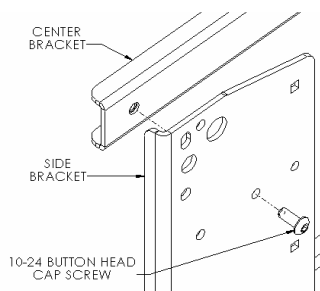
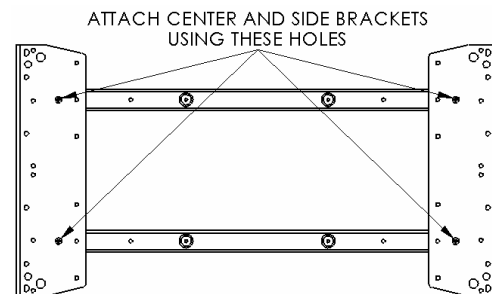

Figure 6
Figure 7
5. **Side Bracket Assembly:** Attach center brackets to side brackets using the 10-24 button head cap screws (see Figure 6 & Figure 7).